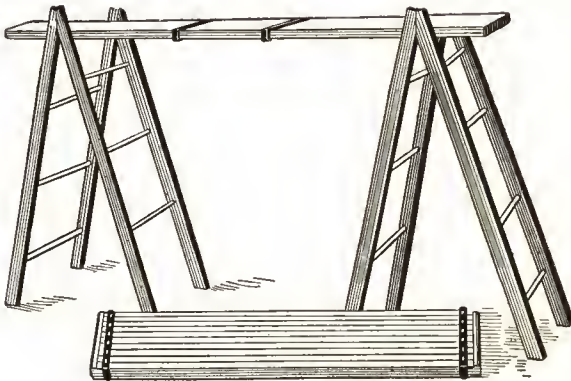

FIG. 32
**Extension Planks:** Instead of using ordinary building planks—2x10's, there are times when the improved extension planks shown in Figure 32 are time savers. They are strong and lighter than ordinary planks in weight. Made in three sizes: 6 feet closed, opens to 10½ feet; 8 feet closed, opens to 14 feet; 10 feet closed, opens to 17½ feet. All are 11 inches wide.